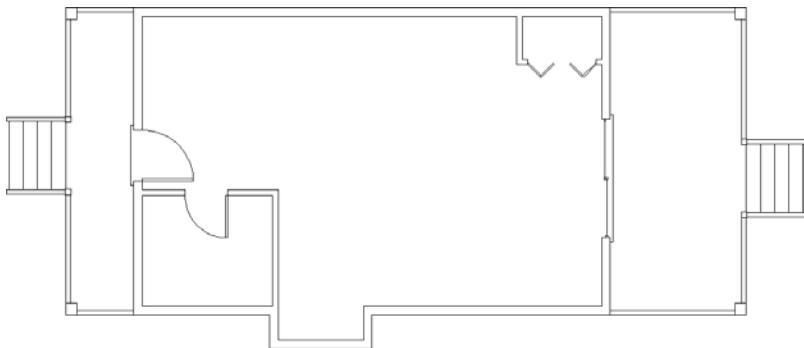

FIGURE 5.39 The cabin after completing the back deck
8. The stairs are moved vertically and centered on the back door. Zoom to the drawing's extents. Your drawing should look like Figure 5.39.